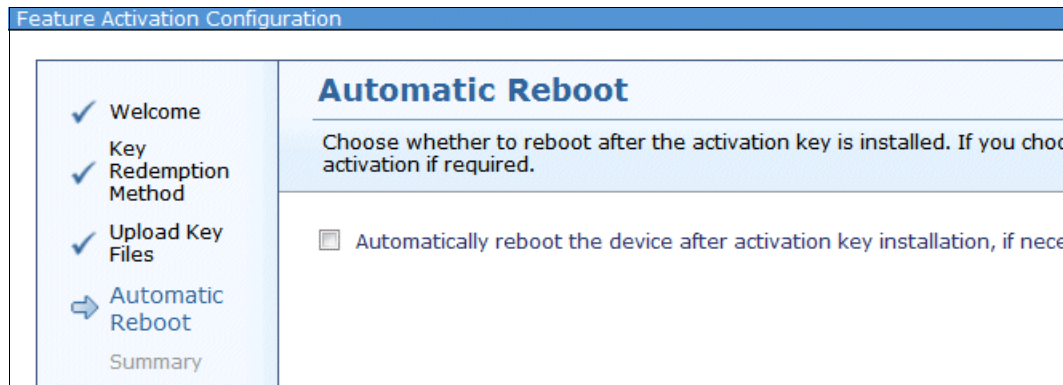

Figure 6-118 Automatic Reboot window
7. The Automatic Reboot window opens as shown in Figure 6-118. You can choose to reboot the device if needed for the FoD key to take effect. Click **Next** and then **Finish**.